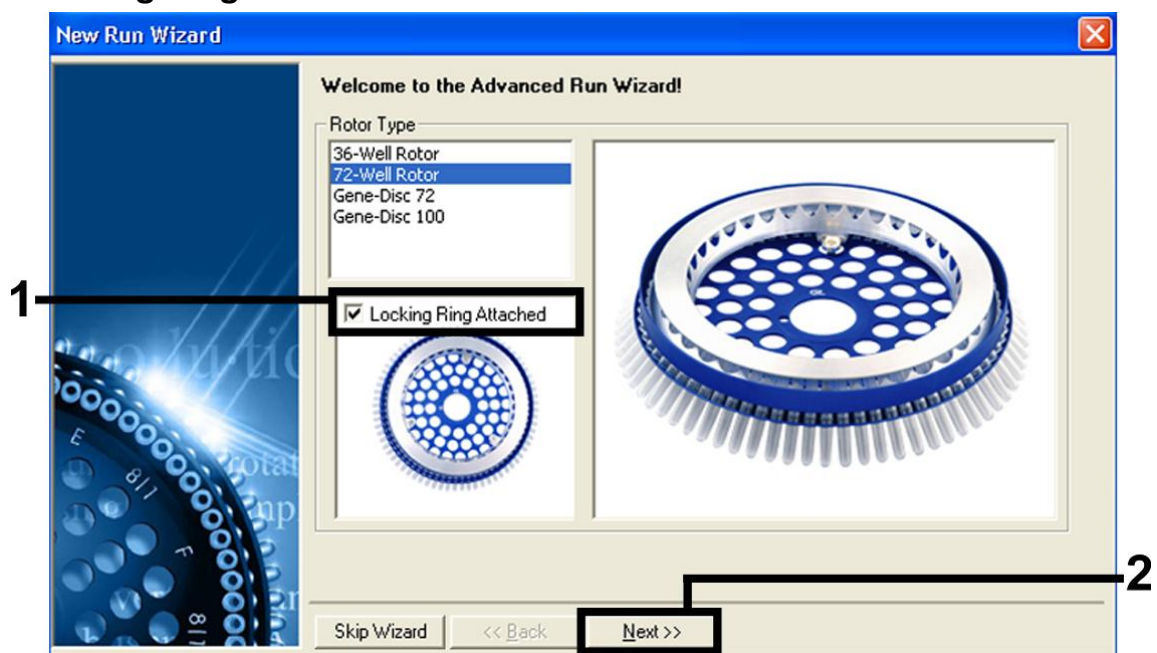

Figure 2. The “New Run Wizard” dialog box.
Setting the general assay parameters	Figures 2, 3, 4
- First, open the “New Run Wizard” dialog box (Figure 2). Check the “Locking Ring Attached” box and click “Next”.